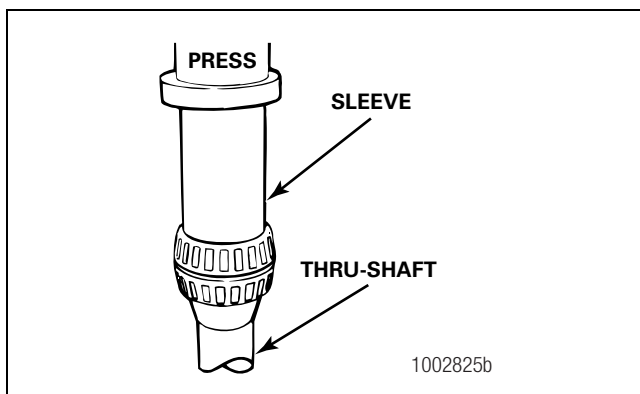

Figure 5.89
2. If the bearing cones were removed from the thru-shaft, install new bearing cones. Place both cones back-to-back onto the thru-shaft. Use a press and sleeve to install both cones. Apply pressure until the inner cone seats onto the shoulder of the thru-shaft. Figure 5.89.